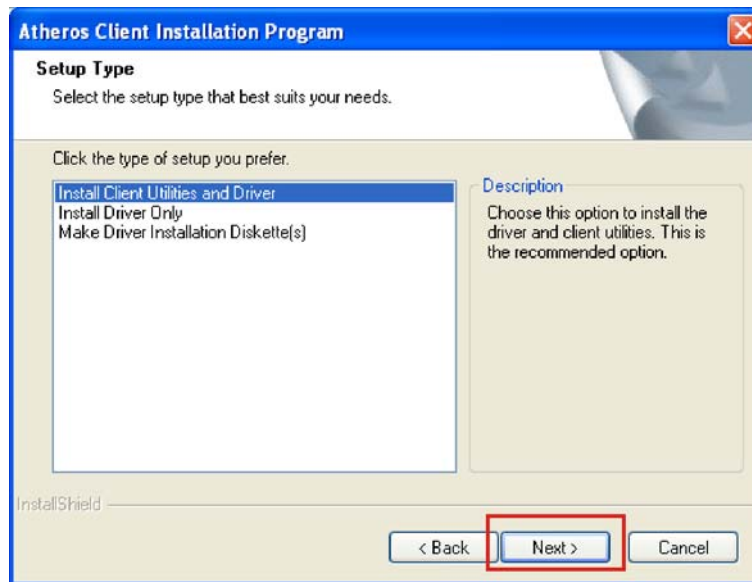

Figure 6-31: Wireless LAN Setup Options
Step 8: The **Setup Options** window appears (Figure 6-31).
Step 9: Choose the installation options (Figure 6-31).
Step 10: Click **NEXT** to continue the installation (Figure 6-31).